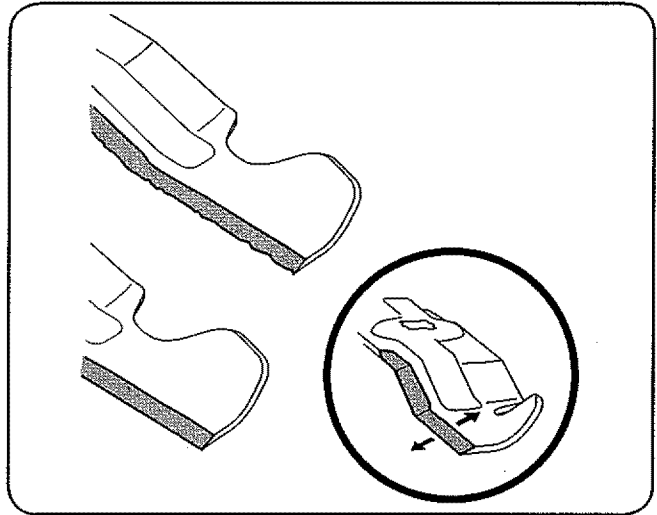

Figure 22
4. To properly sharpen the cutting blades, remove equal amounts of metal from both ends of the blades along the cutting edges, parallel to the trailing edge, at a 25° to 30° angle. Always grind each cutting blade edge equally to maintain proper blade balance. See Fig. 22.